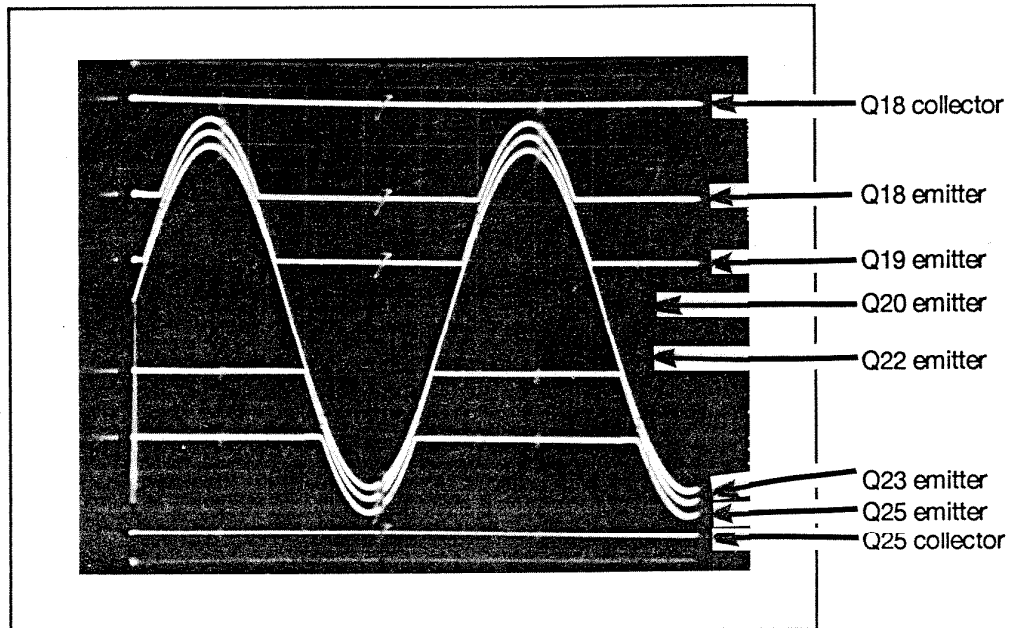

Figure 4: Commutators
D) Increase amplifier output to 67.8 Vrms (575W/8Ω). The commutators should appear as in Figure 4 at 2kHz.